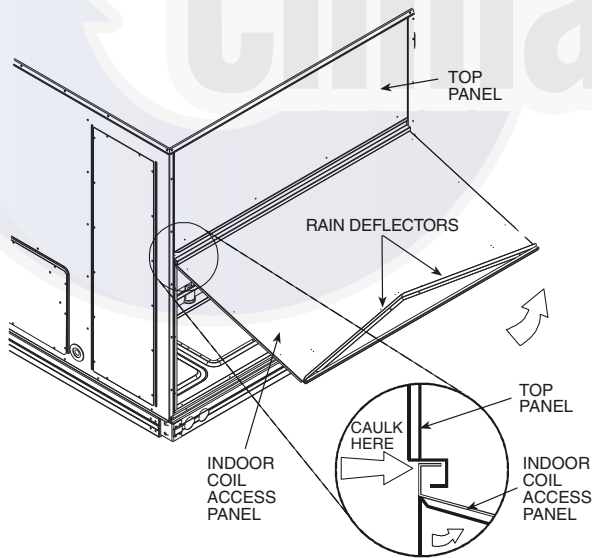

Fig. 16 — Indoor Coil Access Panel Relocation
1. The indoor coil access panel will be used as the top of the hood. Remove the screws along the sides and bottom of the indoor coil access panel. See Fig. 16.